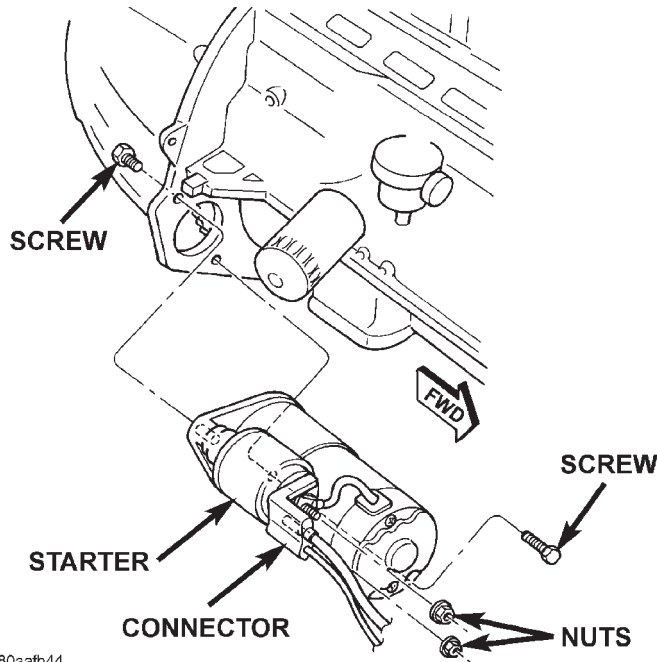

Fig. 12 Starter Remove/Install - 4.0L Engine
(1) Disconnect and isolate the battery negative cable.
(2) Raise and support the vehicle.
(3) Disconnect the battery cable and solenoid feed wire from the starter solenoid (Fig. 12).